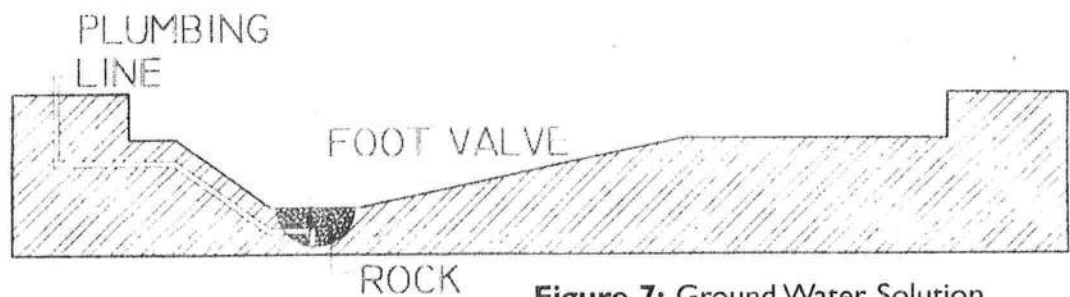

Figure 7: Ground Water Solution
4. Run a plumbing line from the hopper to near the filter (see Figure 7).